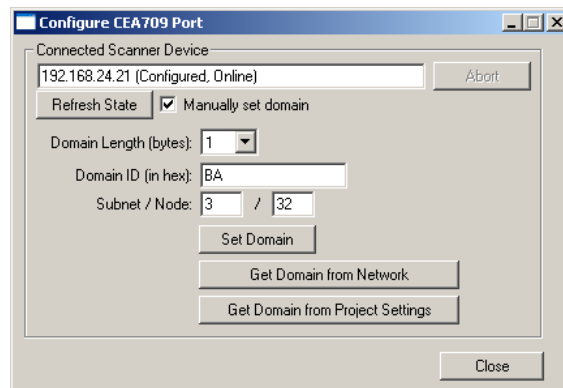

Figure 120: Configure CEA-709 port dialog.
4. If the device has not been installed with a network management tool (e.g. LNS-based tool), press the **Configure CEA709 Port** button. This opens the device install dialog as shown in Figure 120.